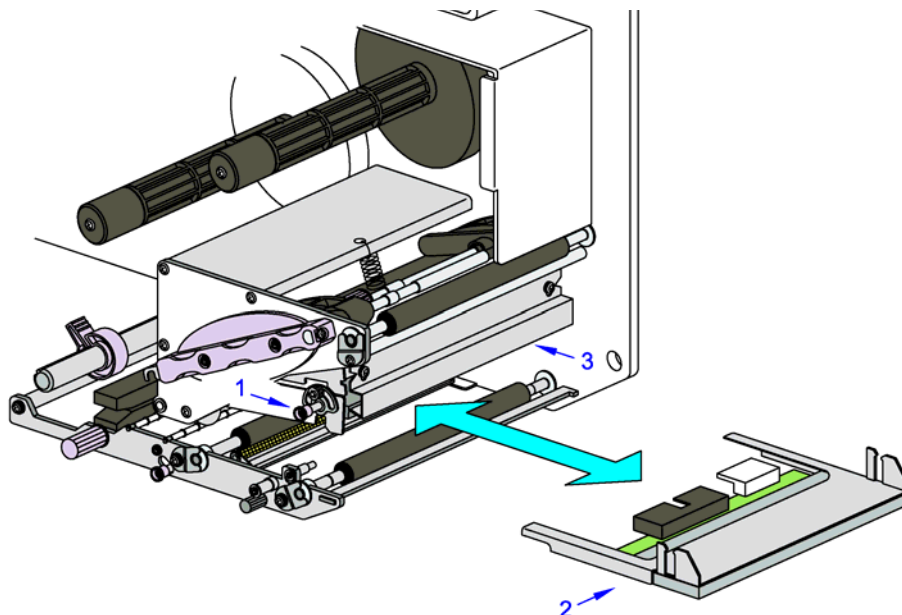

Figure 6-2, Print Head Replacement
3. Pull outward on print head release knob (1, Figure 6-2) to release defective print head (2) from print assembly (3). Disconnect the two wiring harnesses.
4. Reconnect two wiring harnesses (not shown) to replacement print head (2).